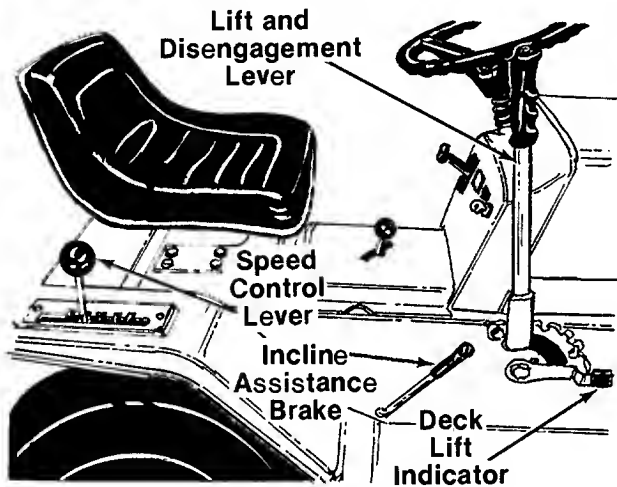

FIGURE 17.
The speed control lever allows you to regulate the ground speed of the lawn tractor. See figure 17. To select the ground speed, depress clutch pedal. Push speed control lever outward and move backward to slow lawn tractor, move forward to increase speed. When desired speed has been obtained, release lever in that position. Whenever clutch is engaged, unit will automatically go to the pre-set speed.
When stopping on a hill, hold the incline assistance brake lever back while you release the clutch-brake pedal until the lawn tractor begins to move, then release the lever. This lever permits smoother starts and clutch engagement by holding the tractor during the brake release/clutch engagement operation. See figure 17.
The lift and disengagement lever is used to raise and lower the cutting deck. Pulling it all the way back and locking it disengages the blades. The lift and disengagement lever must be in the disengaged position when starting the engine and when shifting into reverse. See figure 17.
The deck lift indicator marks the position being used for the lift lever. Select the lift lever position desired, press the indicator lever outward, move it to the position immediately below the lift lever and release the indicator lever. See figure 17.
3. Place the lift and disengagement lever in the DISENGAGED position. See figure 17.